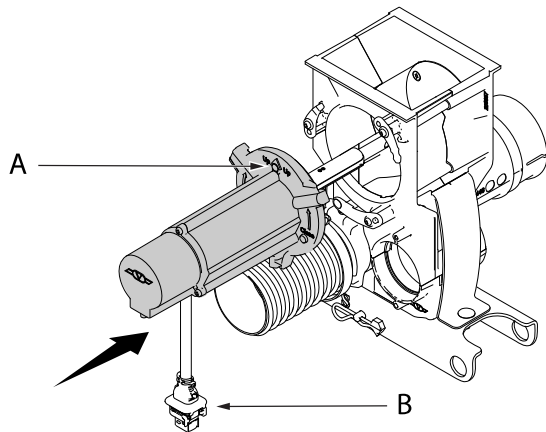

Figure 8.9
1. Loosen the locking pin (A) and pull out the cotter pin (B) in "figure 8.9".
2. Pull out the plug (C).